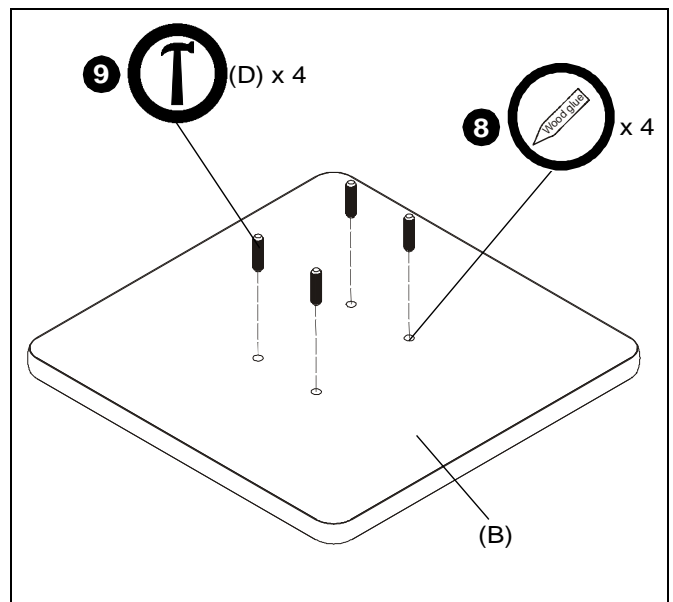

Figure 3
8. Fill the four holes on top plate (B) about half full of wood glue. (See Figure 3)
9. Insert a dowel (D) into each of four holes using a hammer to tap gently until the dowel reaches the bottom of the hole. (See Figure 3)